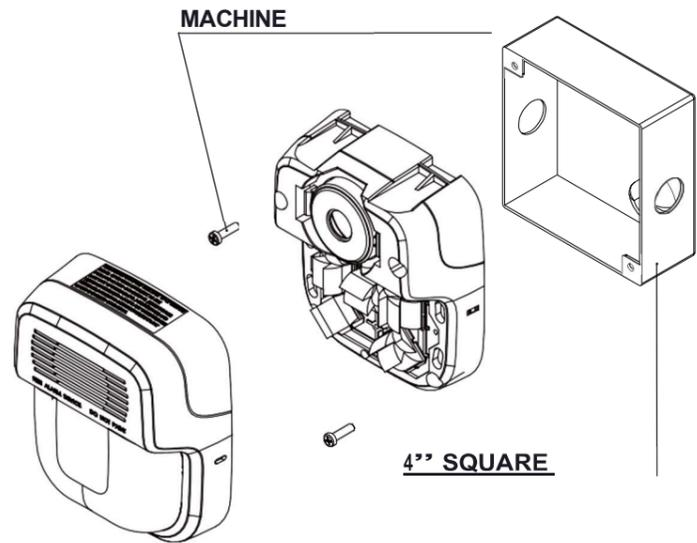

Figure 6: 4-Inch Square Back Box Installation
3. Install device as shown in Figure 6 to a standard 4" x 4" x 1 1/2" back box with the provided pan head screws.